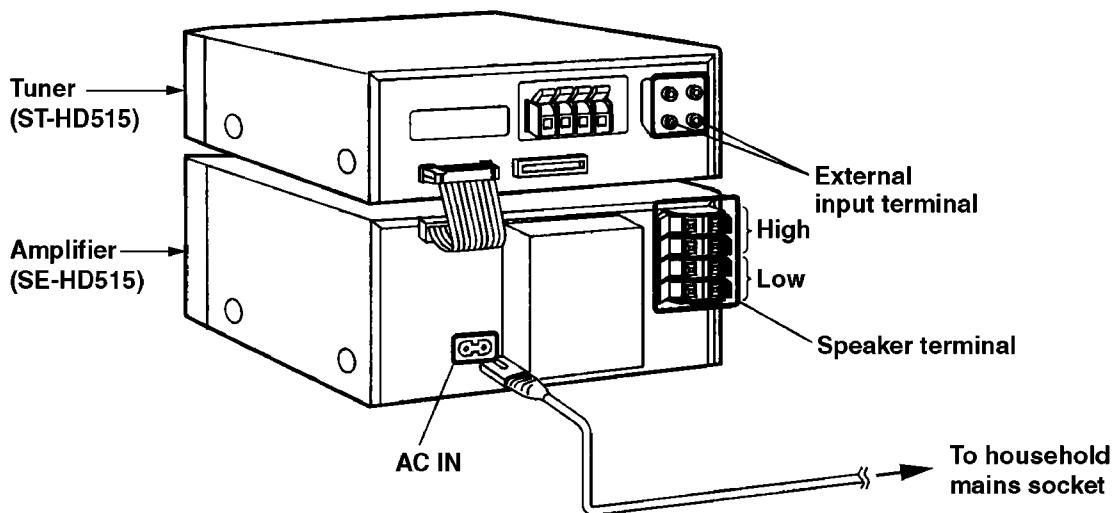

Fig. 8-1.
1. Connect with the Tuner (ST-HD515). Refer to Fig. 8-1.
2. Connect the AC power supply cord to the Amplifier (SE-HD515). Refer to Fig. 8-1.
Refer to Fig. 8-1.